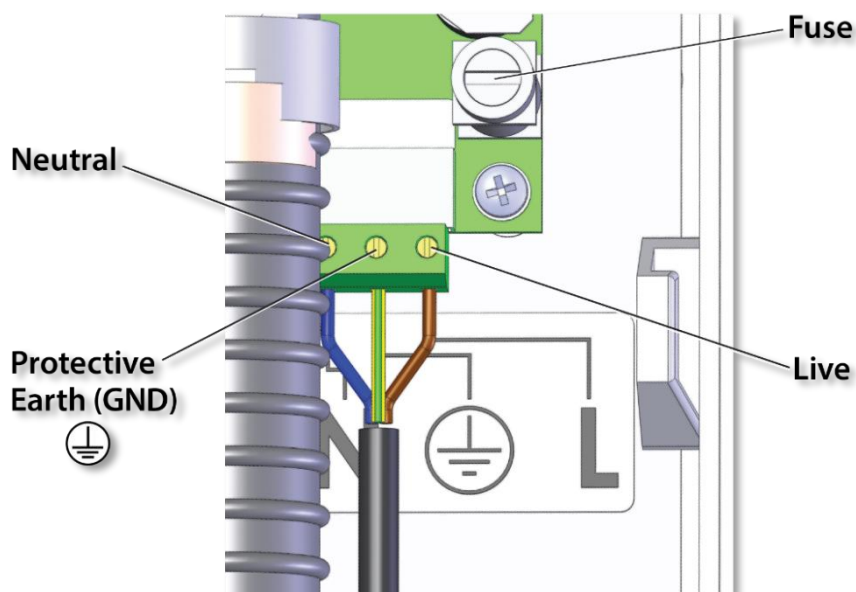

Figure 6: Purge blower wiring.
2. Referring to **Figure 6** below, connect the purge blower to the 3.15A mains isolation switch, then feed the cable through the gland at the bottom of the purge blower [6] and wire it to the power supply terminal block as shown.